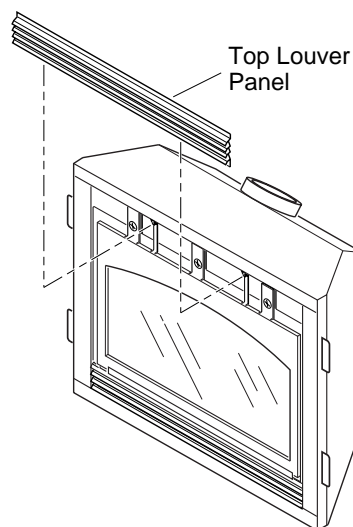

Figure 41 - Removing Top Louver Panel
1. Remove the upper louver panel by lifting upward and out (see Figure 41).